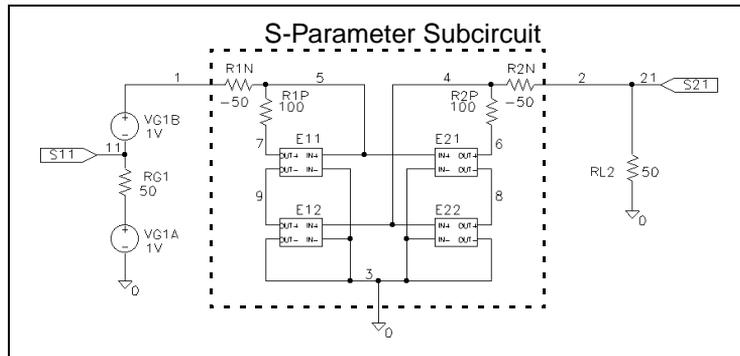

Figure 21 *S-parameter subcircuit schematic also showing setup for evaluating S_{11} and S_{21} . $Z_0=50$ ohms is assumed.*
A 2-port S-parameter subcircuit can be easily implemented as shown within the dashed lines of Figure 21. The voltage-controlled voltage sources—E11, E21, E12, and E22—use the frequency-response table feature provided with PSpice Analog Behavioral Modeling. Figure 21 also shows the setup for measuring S_{11} and S_{21} for this subcircuit. Node 3 is typically grounded, and nodes 1 and 2 correspond to ports 1 and 2.
The voltage generator at the left side of Figure 21 is set up as an open-circuit voltage of 2 in series with a generator impedance of Z_0 ohms. This delivers a voltage wave $a1=1$ volt to a matched or Z_0 ohm load. By implementing the 2-volt generator as two 1-volt generators—VG1A and VG1B in series with the generator resistance RG1 as shown—we achieve the particularly simple result that the voltage at node 11 is the reflected or scattered wave $b1$. Since $a1$ equals one, this is S_{11} itself. This can be verified by inspection. If the generator is terminated at node 1, then the voltage at node 11 is +1 for an open circuit, 0 for a matched load, and -1 for a short circuit. This is in agreement with equation (8) of the April article (see side bar).
Similarly, the voltage at node 21 to the right of Figure 21 is simply $S_{21} = b2/a1$. Thus, for example, the Probe expressions VDB(21) and VP(21) will display the dB amplitude and phase of S_{21} .
Note *In the case of S-parameters S_{12} and S_{22} associated with $a_2=1$, the test generators and termination of Figure 21 must be transposed. See the example schematic in Figure on page 65; the nodes are labelled 22 and 12, accordingly.*